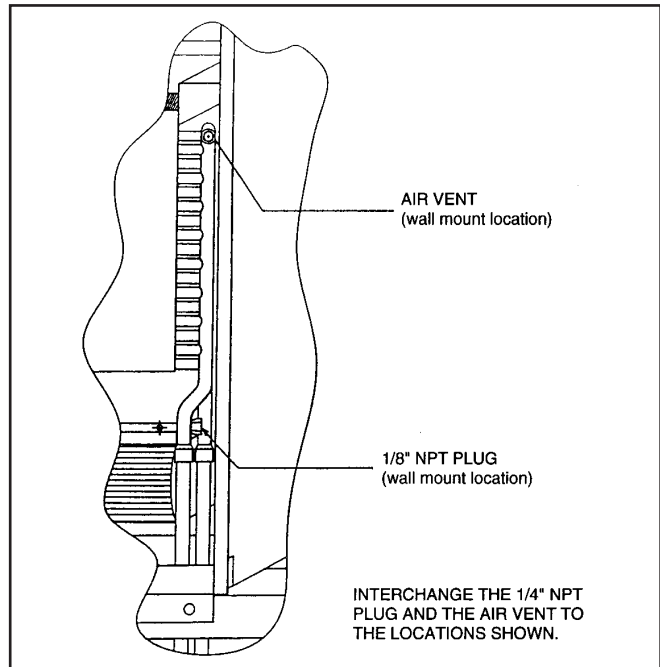

Figure 2. Air vent installation
2. Change the location of the air vent by interchanging the 1/4" NPT plug and the air vent, both of which are assembled to the coil header. See Fig. 2.